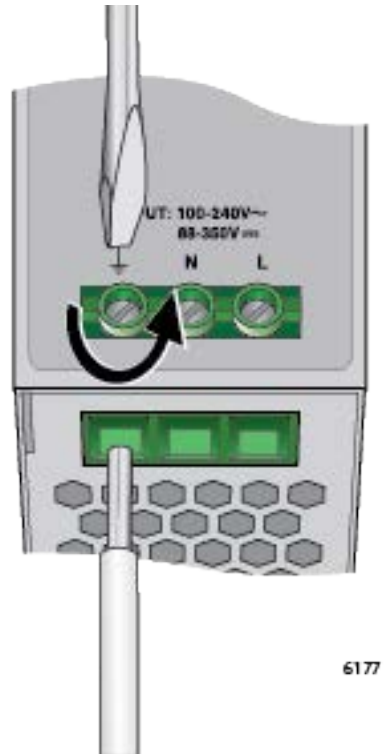

Figure 12. Installing the Ground Wire
2. Loosen the ground screw on the front panel of the power supply and insert the ground wire in the connector on the bottom panel. See Figure 12 on page 39.